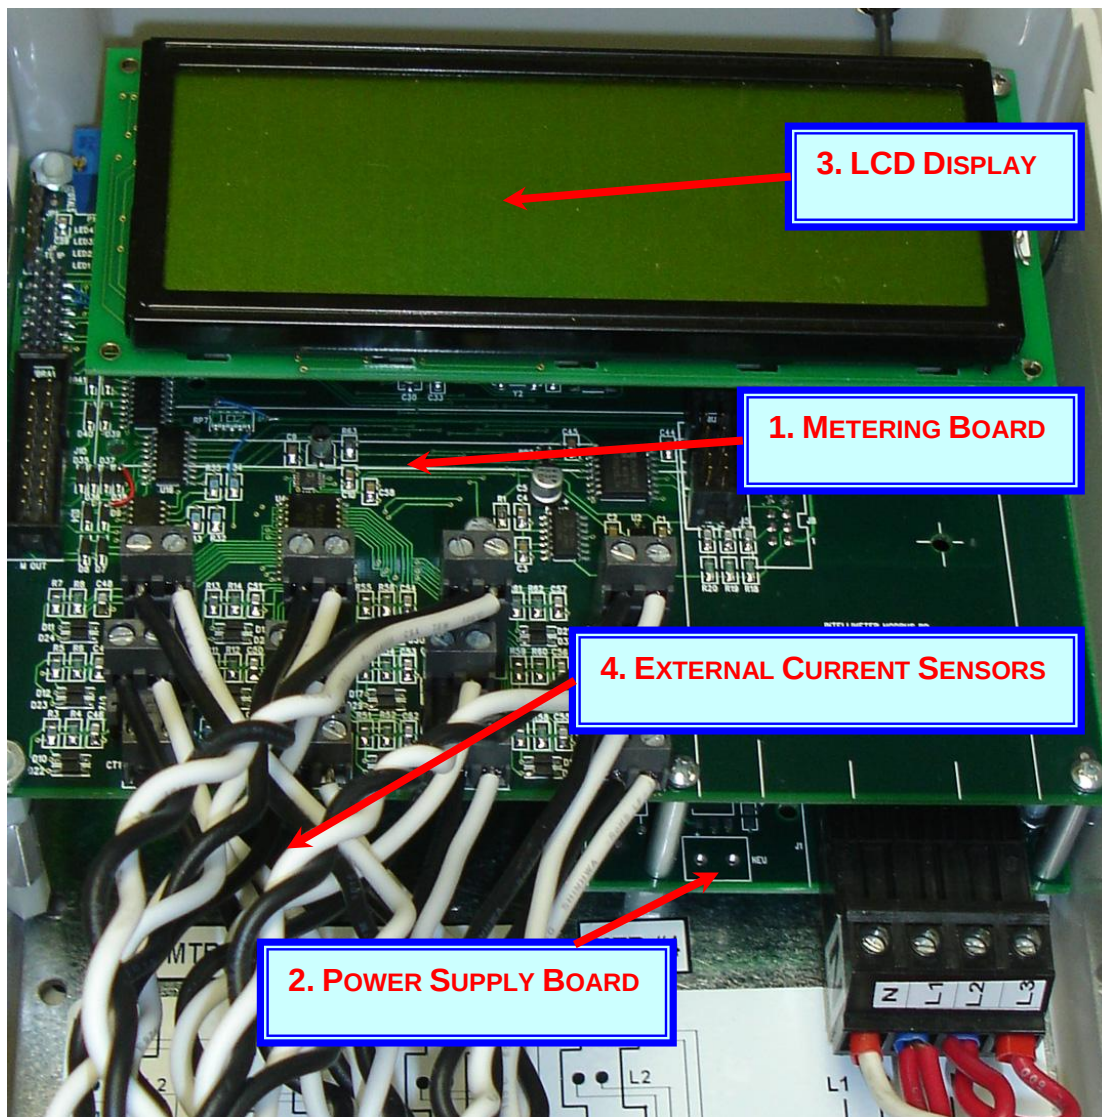

FIG 1: PHYSICAL DESCRIPTION
2.1 Physical Description (See Fig.1)